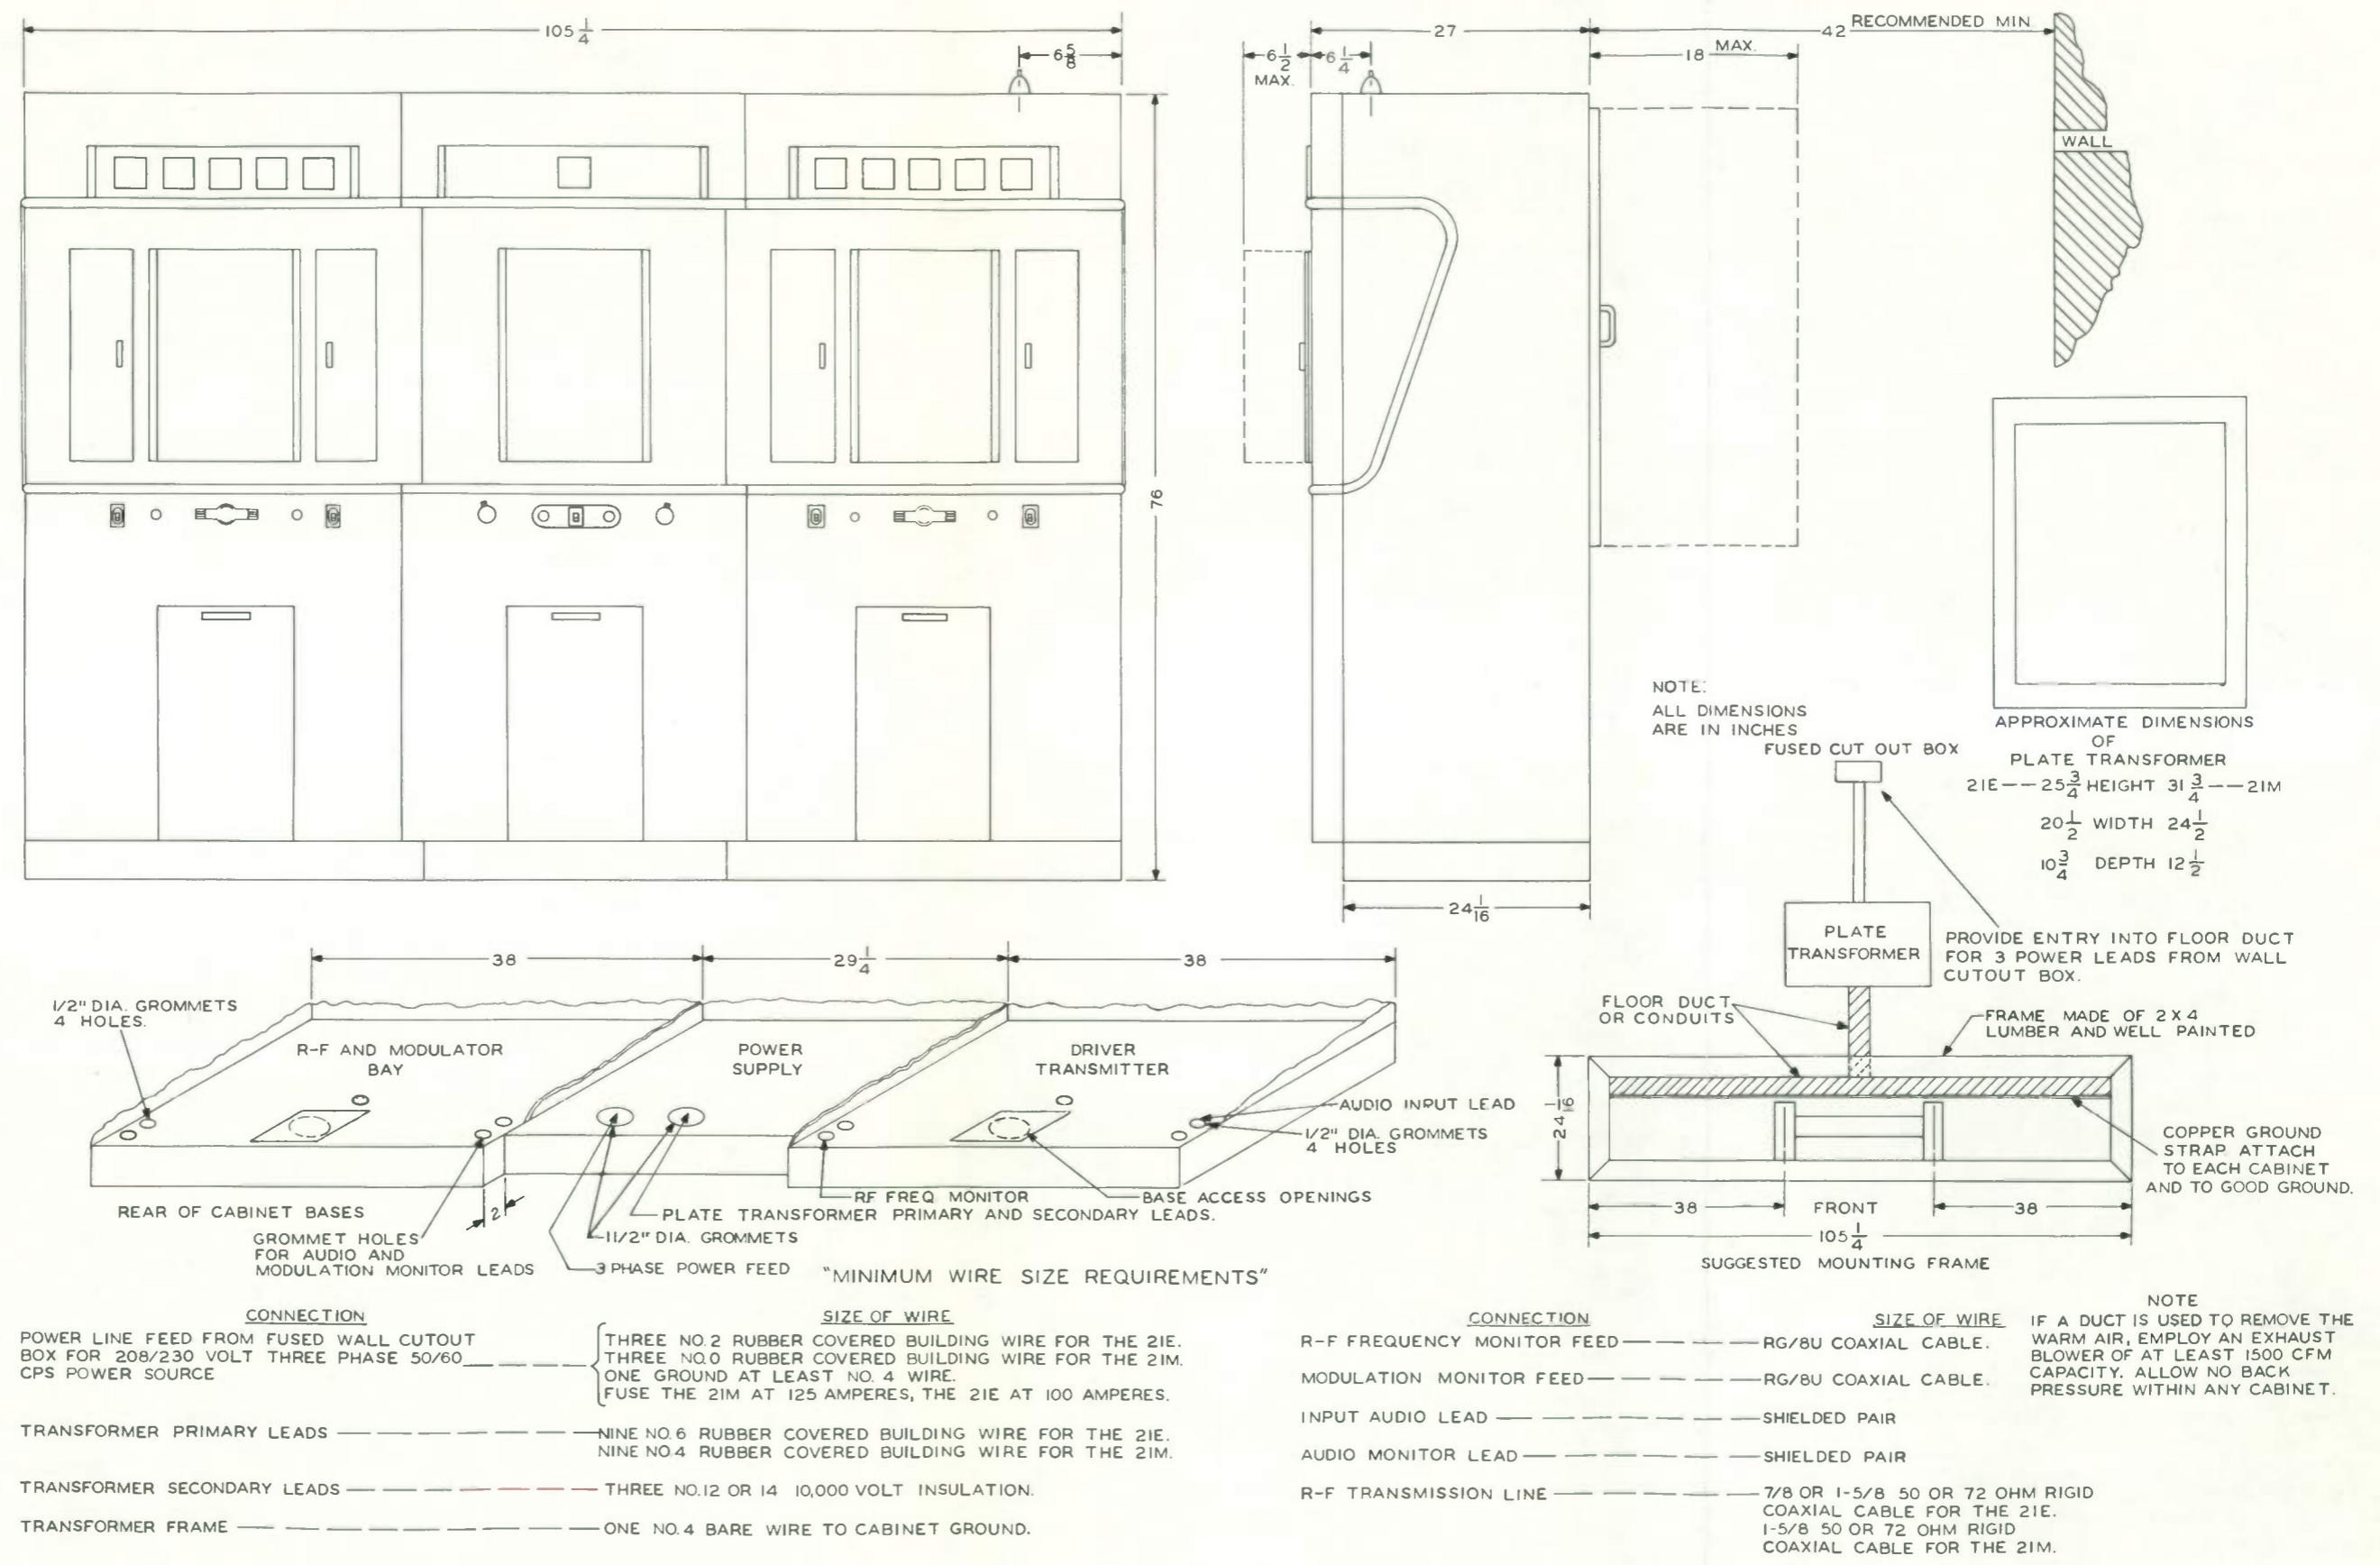

Figure 2-1. Installation Details
2.3.1 MOUNTING POSITION. The important consideration in selecting a mounting position is to provide adequate room for operating and servicing the equipment. Figure 2-1 shows over-all dimensions and clearance dimensions as well as all other pertinent data concerning the mounting of the transmitter.
of power leads. The mounting frame shown in figure 2-1 is adequate and recommended.
2.3.3 ELECTRICAL DUCTS. Provide a duct in the floor, as shown in figure 2-1, in which to run the power leads. This duct should be clean and dry with provisions to maintain these conditions.
2.3.4 GROUND STRAP. See figure 2-1. Install a heavy copper strap along the front edge of the duct that is under the transmitter. Attach this ground strap to the building and antenna ground system. Attach adequate length (for instance, 5 feet) of no. 6 copper wire to the ground strap at points underneath each cabinet, and coil neatly preparatory to setting the cabinets on the frame. Run a no. 4 ground wire from the ground strap back to the plate transformer position for transformer grounding.
2.3.5 POWER SOURCE. For the 21E, provide a 230-volt, 3-phase power source capable of 20 kw (35w for 21M) for the transmitter alone, with all other sources of load extra. Install a 3-phase, metal cutout box, independent of other loads, with 100-ampere fuses for the 21E and 125-ampere fuses for the 21M, and connect it to the transmitter/plate transformer duct with a metal conduit of 2-inch minimum diameter. Observe standard electrical conduit grounding practices, but be sure that the conduit is grounded with no. 4 wire to the transmitter ground strap, too. See figure 2-1 for primary wire sizes.
2.3.6 DUCT WIRING. The wires shown in table 2-1 should be placed in the duct and arranged so that they can be pulled through the proper holes in the cabinet bases. (See figure 2-1 for suggested minimum wire sizes.)
2.3.7 OUTPUT CONNECTION. Normally, the transmitter output connection is to a feedthrough on the roof of the power amplifier cabinet. See figure 2-1. If it is desired to route the transmitter output from the base of the cabinet and into the duct, a hole that will pass the transmission line will have to be drilled into the base of the power amplifier cabinet. This must be done before mounting any heavy components in the cabinet. A ground lug is provided adjacent to the output feedthrough in the roof of the power amplifier cabinet to ground the outer conductor of the rigid transmission line. Use a 7/8-inch or 1-5/8-inch line for the 21E and a 1-5/8-inch line for the 21M of the impedance value established in the sales contract (either 50 or 72 ohms).